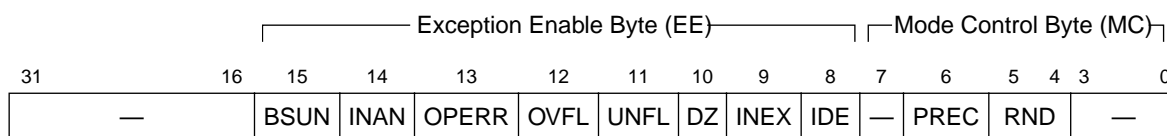

Figure 1-4. Floating-Point Control Register (FPCR)
The FPCR, Figure 1-4, contains an exception enable byte (EE) and a mode control byte (MC). The user can read or write to FPCR using FMOVE or FRESTORE. A processor reset or a restore operation of the null state clears the FPCR. When this register is cleared, the FPU never generates exceptions.